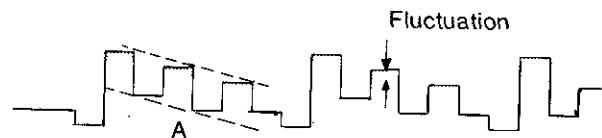

Figure 6
- (1) Send the SECAM COLOUR BAR SIGNAL to the antenna and adjust colour +/- so that colour level may be the mechanical center set.
- (2) Connect oscilloscope probe to pin 6 of the IC501.
- (3) Adjust VR601 to waveform A in figure 6.
- (4) Adjust L603 to minimum fluctuation as shown in figure 6.